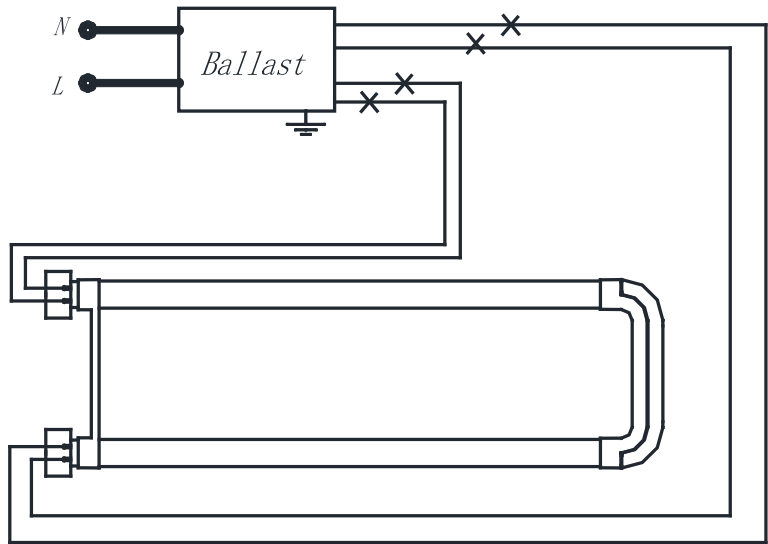

Fig.2
**STEP 5:** In accordance with the below drawing, cut off all the wires connected to the ballast and starter(if provided), shown as below, Fig.2